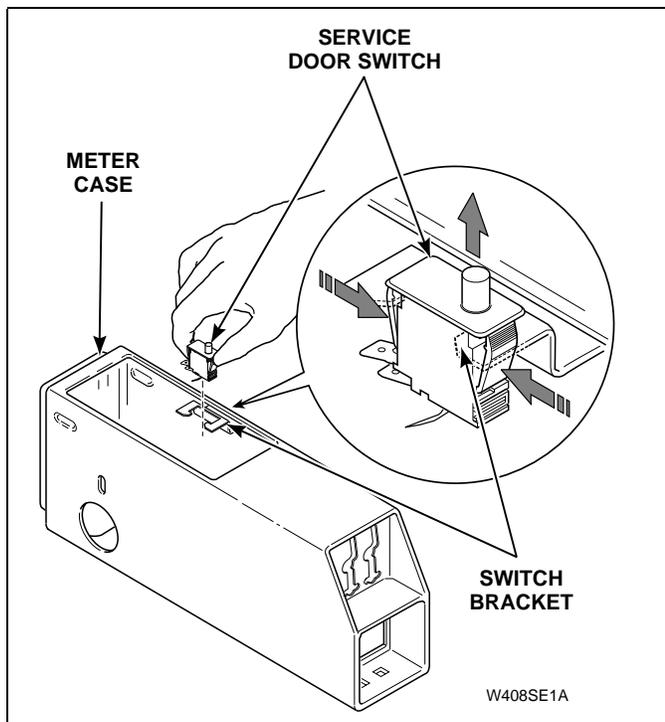

Figure 14
- (3.) Press in on locking tabs of service door switch and remove switch from bracket on meter case, as shown in *Figure 14*.
- (10.) Reinstall service door switch and wire harness into meter case bracket. See *Figure 14*.